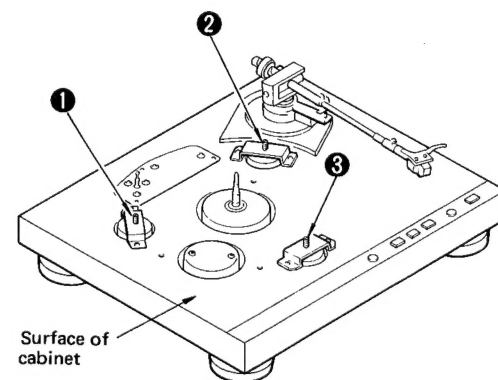

Fig. 1
1. Adjust so that the space between platter and surface of cabinet is 4 mm \pm 0.2 mm by turning screws ① to ③ in Fig. 1.